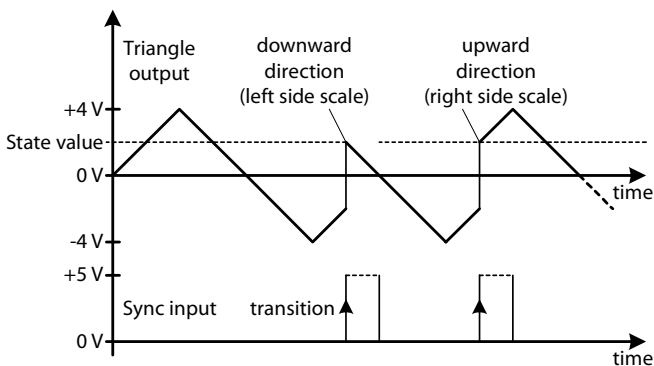

Fig. 6a State - Sync
A positive transition beyond a trigger level of about +3 V at the sync **jack (11)** leads to a synchronizing jump to the current **state value**, whereas the LFO continues oscillating. The **Run/Set jack (15)** is internally tied via a switching contact to +5 V, that the LFO can free oscillate in normal mode. A plugged cable even open ended or with applied 0 V causes a permanent set of the triangle to the state value until the applied voltage becomes +5 V (or unplug the cable) to release the oscillator. **Fig. 6a, 6b** visualize the effect of Sync and Run/Set in **free running** mode.